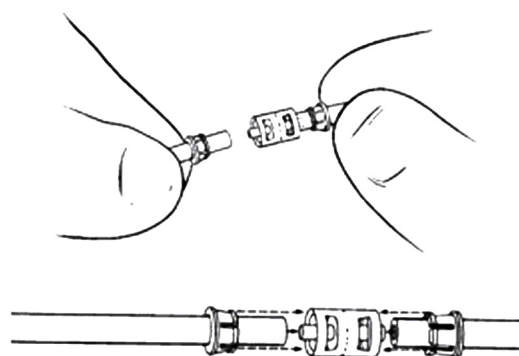

Figure 4-33. Insert Tubing Into Connector
4. Insert tubing end into connector. **(Figure 4-33)**
5. Insert other tubing end into connector. **(Figure 4-33)**